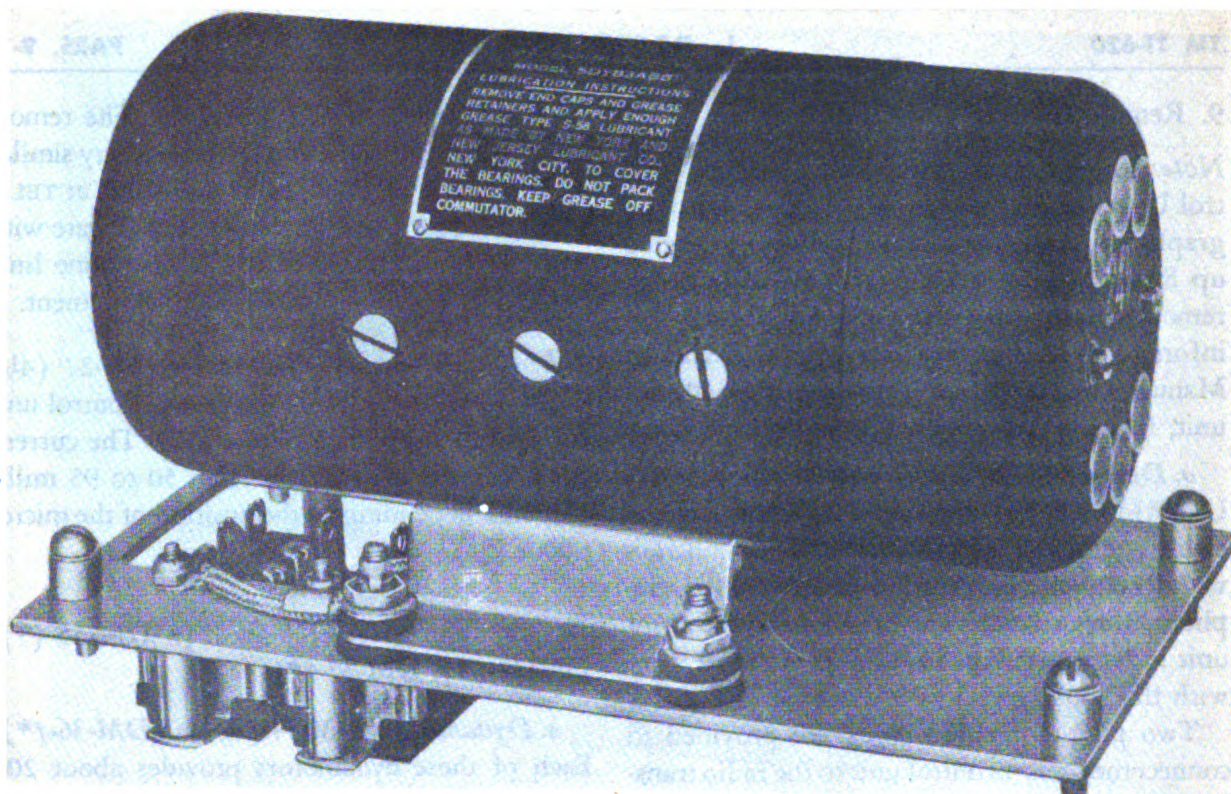
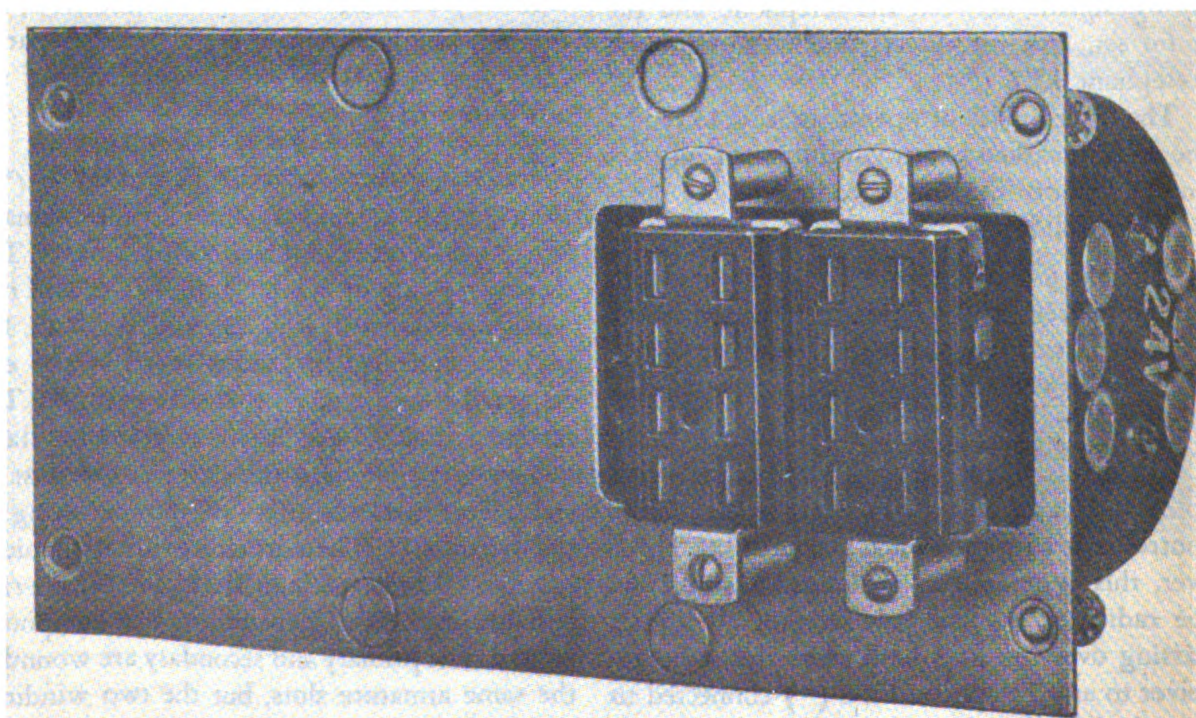

Fig. 22a. Dynamotor DM-35-(*) or Dynamotor DM-37-(*)
Fig. 22b. Dynamotor DM-35-(*) or Dynamotor DM-37-(*): Sub-base View
b. Dynamotors DM-35-() and DM-37-(*).* Each of these dynamotors provides approximately 625 volts for operation of the transmitter. The dynamotors are of similar appearance; and two views are shown in Fig. 22a and Fig. 22b. Except for screened breathing vents in the end covers, the dynamotors are totally enclosed. The screened holes have been omitted in later dynamotors to reduce the entrance of dust or sand. This does not affect the power rating of the dynamotors. Their armatures are dynamically balanced and are supported by two single-race ball bearings. Both dynamotors are compound wound. The primary and secondary are wound in the same armature slots, but the two windings are brought out to separate commutators mounted on opposite ends of the armature shaft.